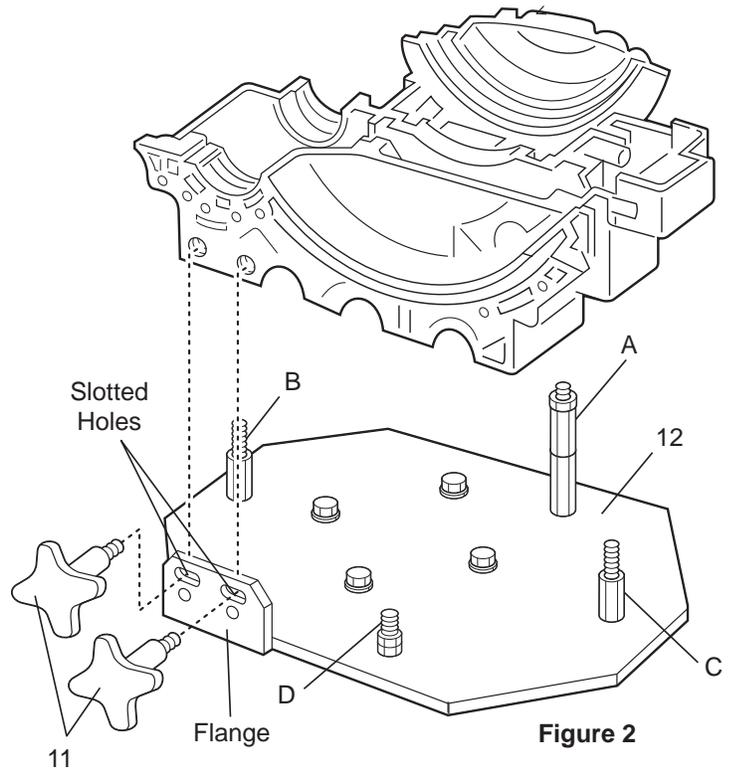

Figure 2
2. The index #12 adapter plate assembly includes four locating points that support the transmission case. The four locating points are identified as A, B, C and D in figure 2. When pumping the jack up, make sure locating points B and C of the adapter plate are lined up with the two holes in the bottom of the transmission case and the slotted holes in the index #12 adapter plate flange are lined up with the threaded holes in the transmission case as shown in figure 2. It may be necessary to adjust the fore/aft and/or side to side tilt screws on the jack's saddle base to make sure all the locating points and slotted holes in the adapter plate flange are properly aligned with the transmission case.